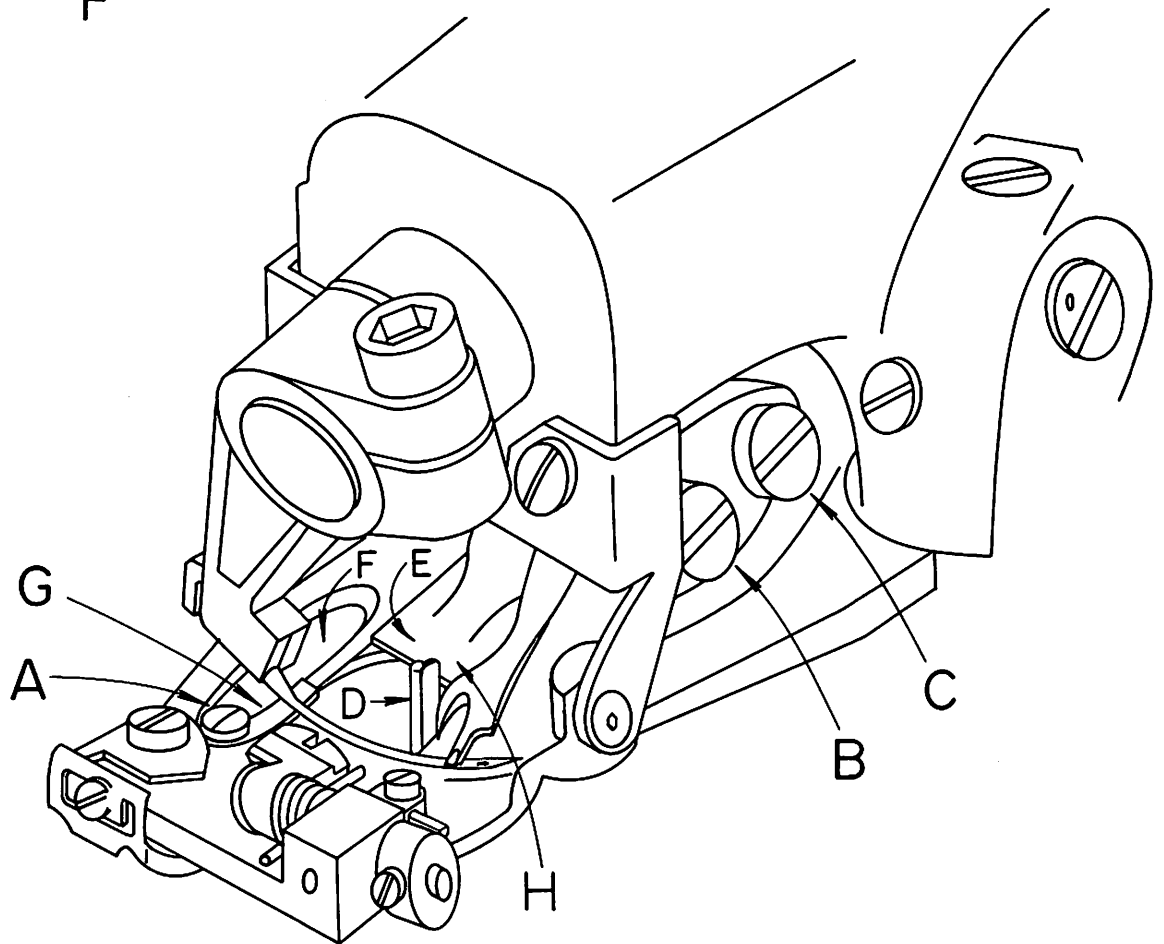

FIGURE 9
9. After all the necessary adjustments have been made, tighten all set screws and the lock nut and recheck all the adjustment points. Referring to Figure 9, the looper should now clear the chain-off pin ("D"), feeder ("E"), looper slot ("F"), needle, and pass over the needle in the correct position to pick up the loop.
1. After considerable service, it may be expected that the wearing action of the needle will cause a sharp edged groove to form on the needle guide (item "G" in Figure 9).
2. Loosen the needle guide attaching screw (item "A" in Figure 9) and remove the worn needle guide. Clear out any lint or dirt that may have accumulated under the old guide and insert the new guide. Insure that the new guide is seated flush with the top and side of the presserfoot and then retighten the attaching screw. Slowly turn the handwheel in the direction away from the operator and check to insure that the new guide fits properly under the needle and that no interference has been introduced between the guide and the looper.
1. In the event that the machine develops difficulty by failing to properly feed the work, a worn feeder is frequently found to be the cause. After considerable service, especially with certain hard fabrics, the feeder teeth have a tendency to become dull, and the feeder should be replaced. In order to remove the old feeder, remove the front feeder attaching screw (item "B" in Figure 9) and loosen the rear feeder attaching screw (item "C" in Figure 9). The old feeder may then be slid out of place. Insert the new feeder under the rear screw and replace the front screw.
2. Before tightening the attaching screws check to see that the feeder is set to the proper depth. Referring to Figure 10 this should be approximately $\frac{1}{32}$ " (.795mm) below and parallel to the bottom of the presserfoot for all light and medium weight fabrics. For heavy fabrics, the setting should be approximately $\frac{1}{16}$ " (1.59mm) below and parallel to the bottom of the presserfoot. These dimensions are intended as guides and may be modified as required by the specific fabrics. Once the proper depth is established, rotate the handwheel slowly in a direction away from the operator and check to insure that the feeder clears the looper (see Figure 9, Point "H") and also clears both sides of the feeder slot in the presserfoot. Firmly tighten feeder attaching screws (Figure 9, Items "B" & "C") before resuming sewing.